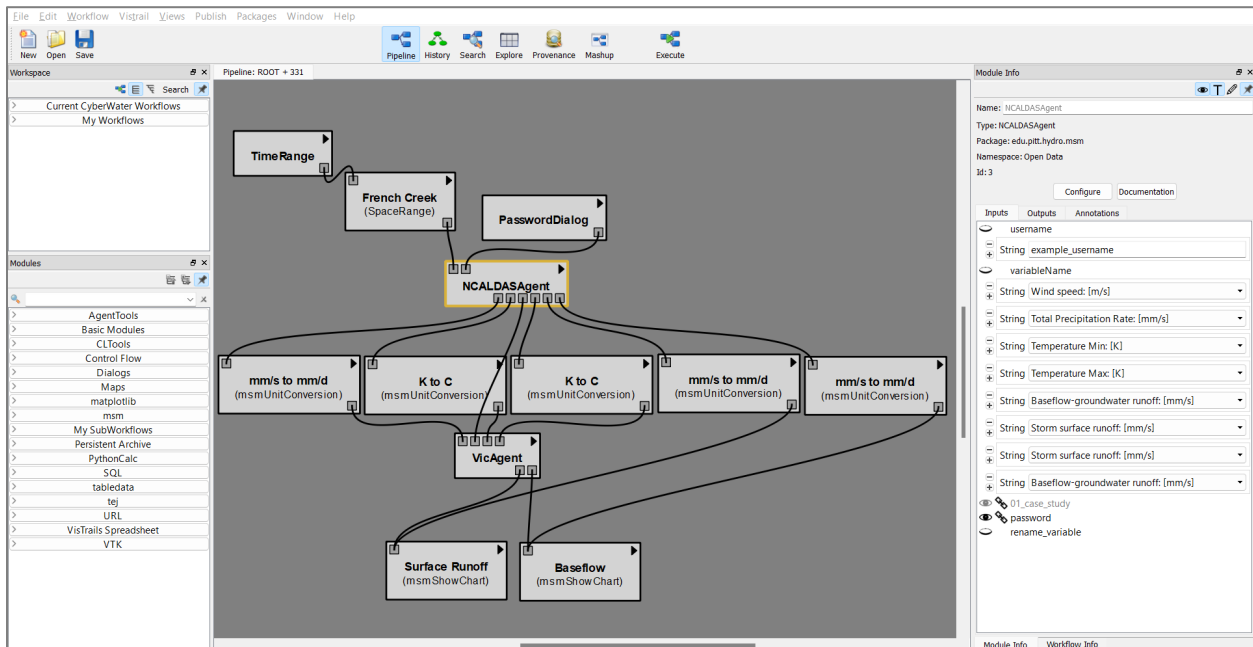
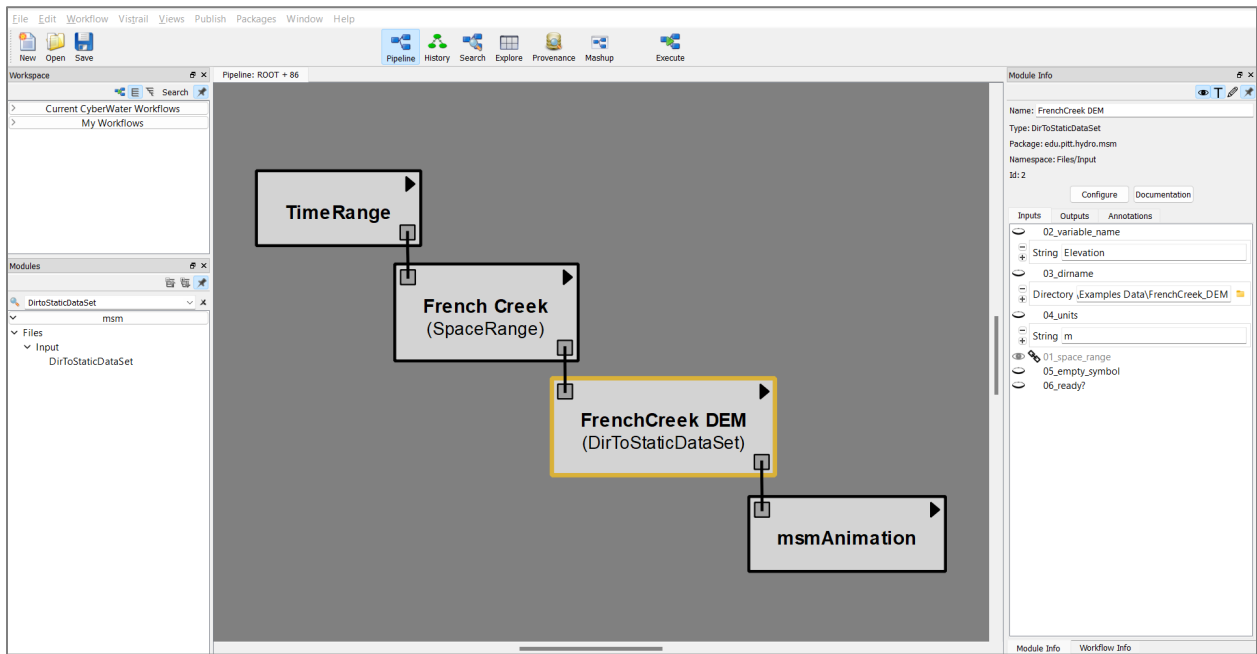

Figure 34. Workflow used to simulate and compare values of baseflow and surface runoff of the French Creek basin, using VIC.
Figure 41. A workflow to create a display of a local DEM map
- Now, in order to compare the obtained results with a different model, the user can add two more '*variableName*' in the existing *NCALDASAgent* and retrieve NASA's values of *Runoff* and *Baseflow* as: '*Storm surface runoff: [mm/s]*', and '*Baseflow-groundwater runoff: [mm/s]*'. The output ports for both data should be activated. Since these values are given in mm per second, the respective unit transformation needs to be performed, using the *msmUnitConversion* module with an '*operation*' of '*x\*86400*' in units of '*mm/day*'. The outputs of these operations can be connected directly to the plotting modules, as depicted in Figure 34. The workflow in Figure 34 can be downloaded from CyberWater website <2. VIC4 Model Simulation>.
An already cropped DEM data of the French Creek Basin with a resolution of 30 meters is included on Hydroshare at <Examples Data\FrenchCreek DEM>. The *DirToStaticDataSet*1 module in *CyberWater* is capable of loading this map into *VisTrails*. In order to have a visual representation of this DEM, copy and paste the *SpaceRange-TimeRange* tuple created in the previous example (Figure 34) into a new workflow. Connect it to a new *DirToStaticDataSet* module. Its inputs should be:
Next, the user can use the *msmAnimation*2 plotting tool to create a visual representation of the DEM. Make sure to select the 'terrain\_map' from the color\_bar option. The resulting workflow should look as shown in Figure 41. The workflow in Figure 41 can be downloaded from CyberWater website <3. DEM Data Visualization>.
Using this DEM, the Routing Agent creates a drainage network given a set of output coordinates provided as input. Starting from the workflow displayed in Figure 34, the user can add the *DirToStaticDataSet* module used in Figure 41 to upload the DEM map. The input port of the *DirToStaticDataSet* module should be connected to the *SpaceRange* box as done before. The user will also need to add the *GISEngine*1 module to create a GRASS engine object for the Routing Agent. CyberWater's *GISEngine* module was created to make a bridge between the main framework and GRASS GIS. Basically, the *GISEngine* allows users to execute all commands available in GRASS GIS directly inside the CyberWater's interface, so the user does not need to open and close third-party applications, nor spend any time dealing with computationally-taxing GIS interfaces. Next, bring a *RoutingAgent*2 module, and provide the following inputs: